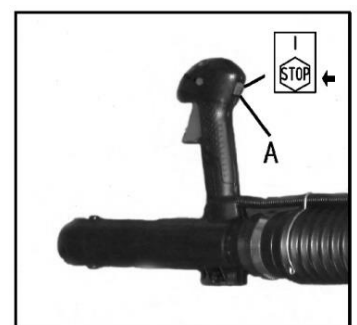

Fig.13
When it is necessary to stop blower engine immediately, PRESS the OFF "STOP" switch (A) (Fig.13).
For normal stopping, release trigger and allow engine to return to idle speed. Then PRESS the OFF "STOP" switch (A) (Fig.13).